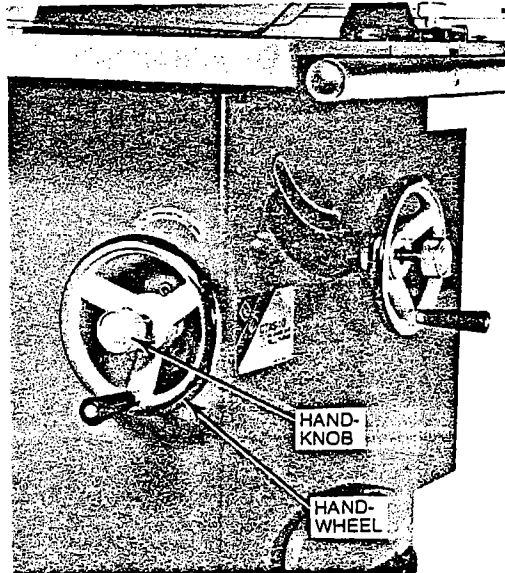

FIGURE 9
1. To tilt saw blade, turn handwheel counterclockwise as viewed from side of cabinet. (see Figure 9).